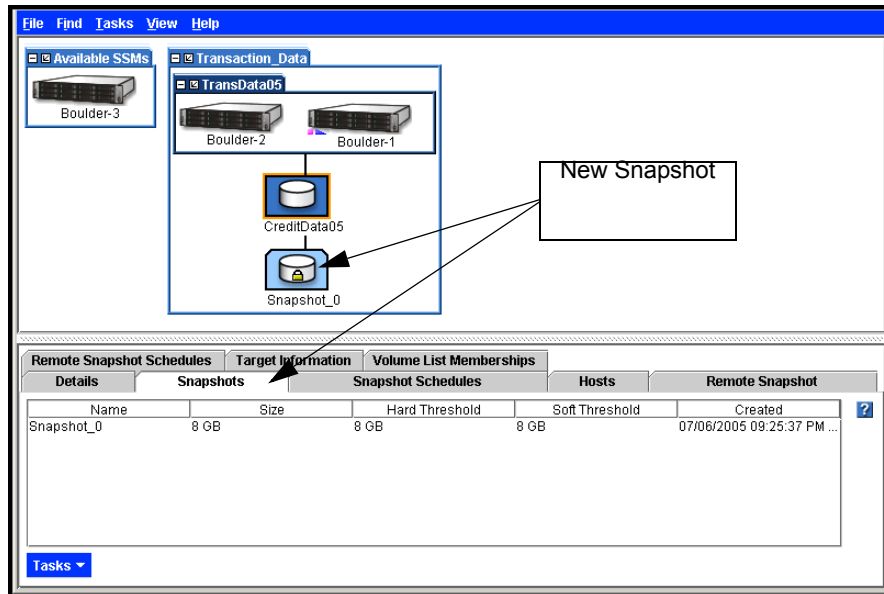

Figure 175. New Snapshot
8. Click OK when you are finished. The Snapshots tab opens with the new snapshot listed. The new snapshot also displays in the Network view, as shown in Figure 175.